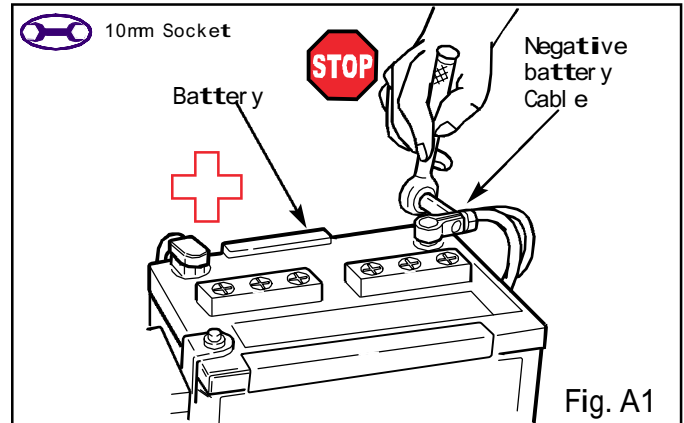

Fig. A1
1. Disconnect the negative battery cable. (Fig. A1)